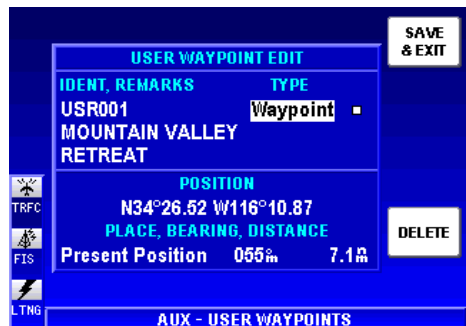

Figure 1-81
- Use the Joystick to place the cursor over the **TYPE** field as shown in Figure 1-81.